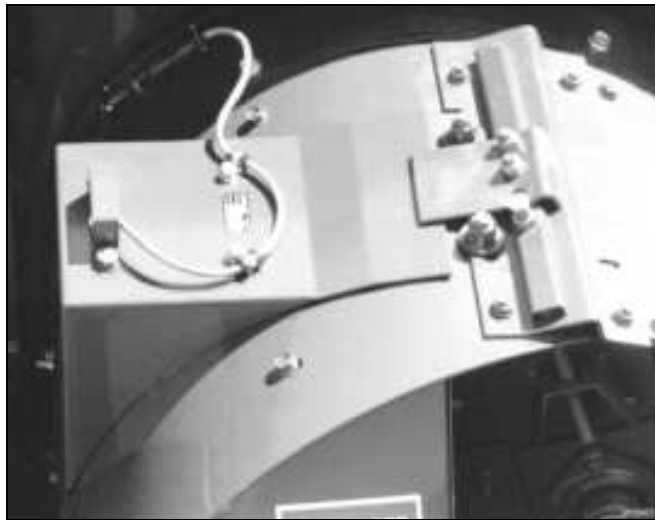

Figure 11. Flow sensor installed
18. Install new locking cover on new anchor plate. **Do not install L-bracket or flow sensor at this time.** Installed flow sensor will look like Figure 11.